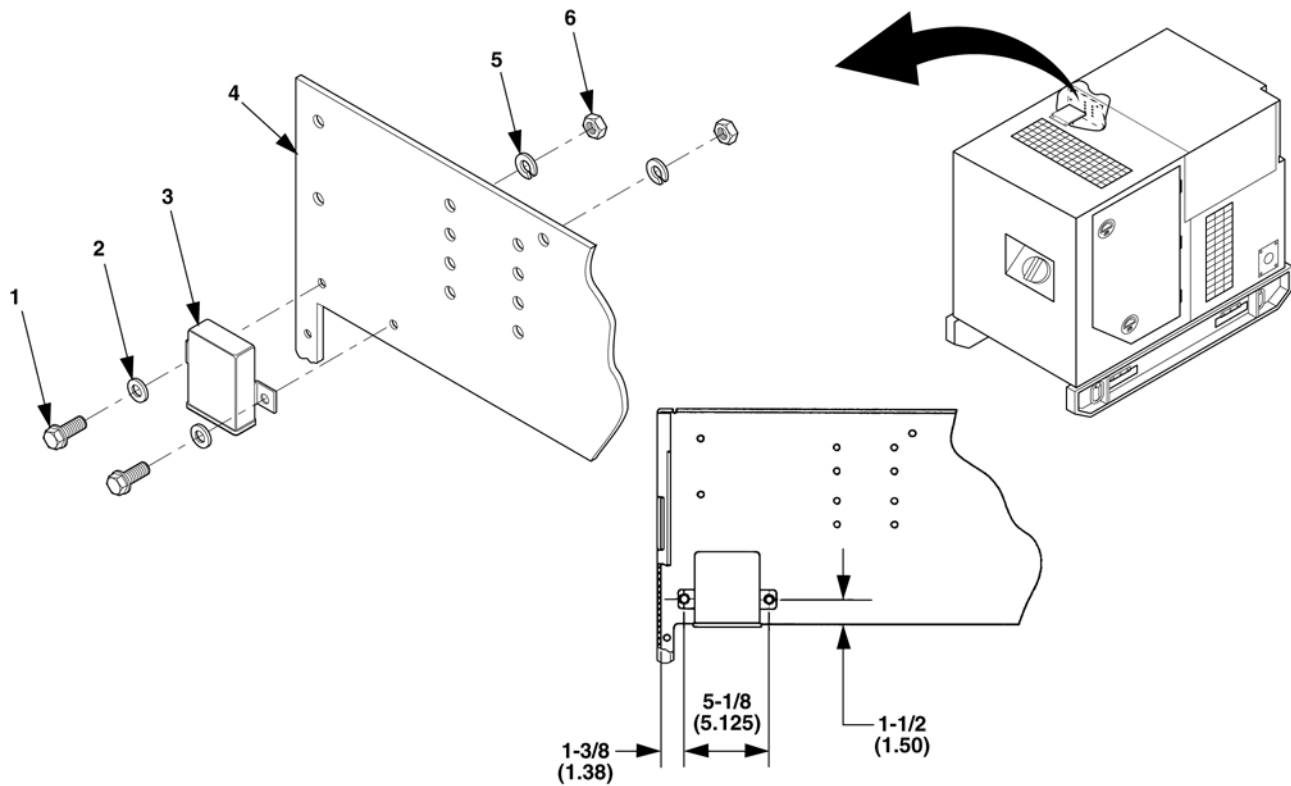

Figure 5-1. Control Unit Assembly.
4. Drill two 3/16" diameter holes using control unit (3), Figure 5-1, as template in center bulkhead housing (4).
5. Install control unit, (3), to center bulkhead housing (4) with screws (1), flat washers (2), lock washers (5), and nuts (6).